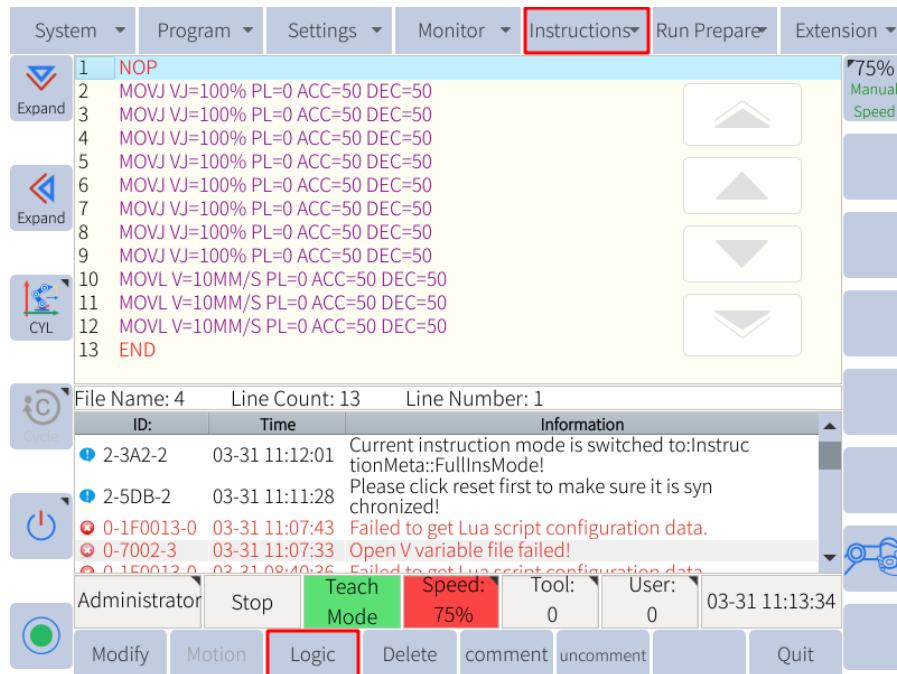

Figure 6-63 : Inserting other instructions
2. Press “Instruction” under the main menu (or “Custom” in the submenu area) to select the instruction to be inserted (see **Figure 6-63**)